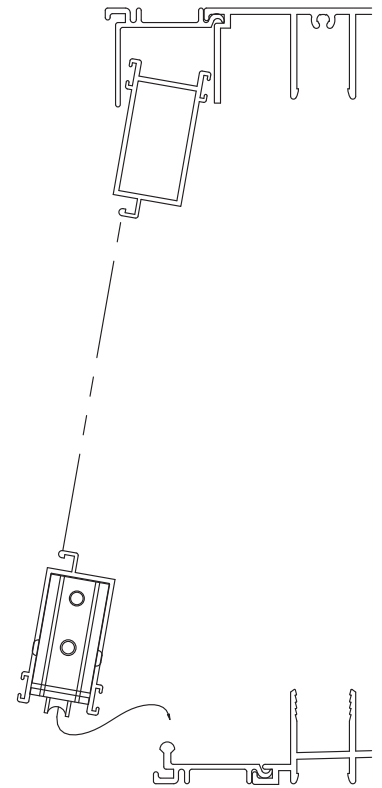

Figure 18
1. Position panel so that top of panel slips into frame header channel. Swing bottom of panel in until bottom of panel is aligned over sill spline and set panel on roller spline. (See Figure 18)